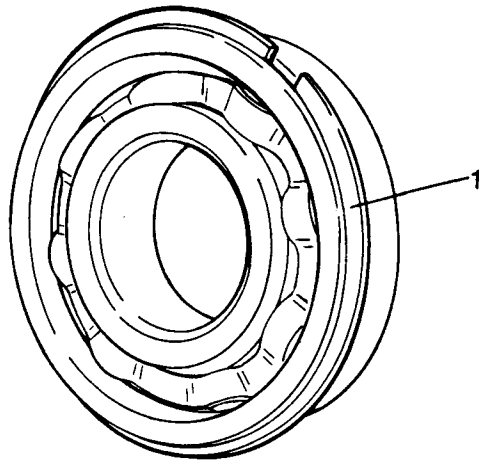

Fig H1.67
- (1) Refer to Fig H1.67. Remove the spring ring (1) from the old bearing and fit it on the new one.
- (2) Push the bearing into the casing, until the spring ring butts up against the casing.
- (3) Replace the gearbox housing (see Sub-sub-section H1.3, Chapter 13).